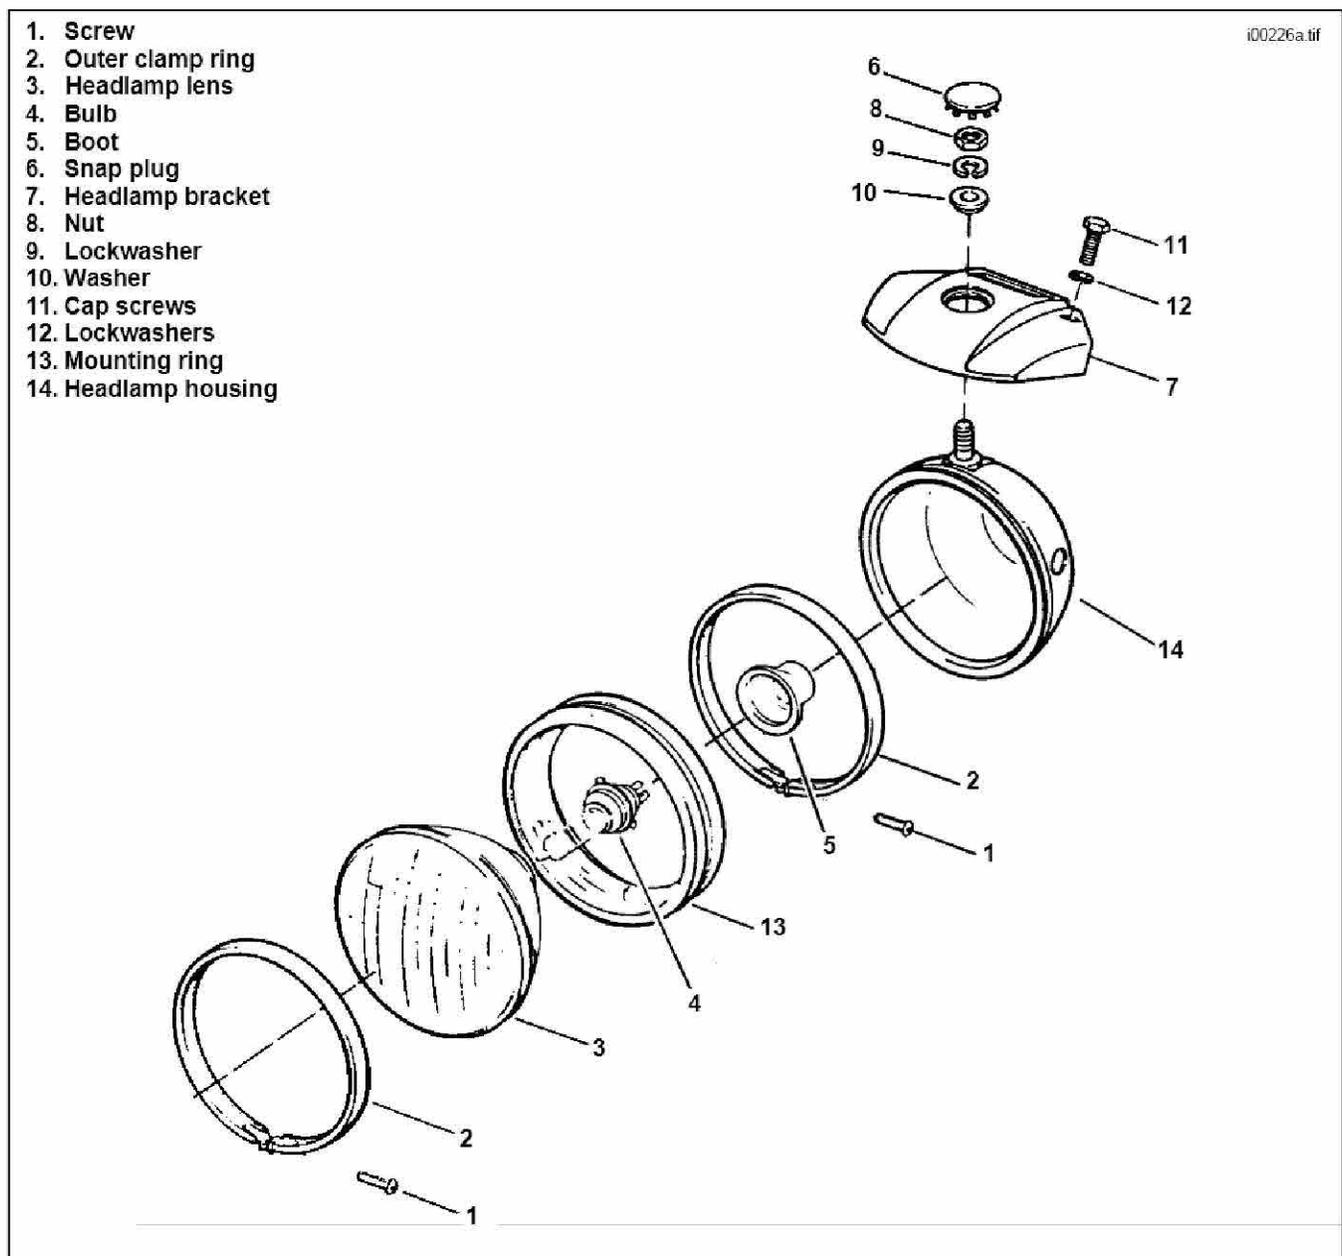
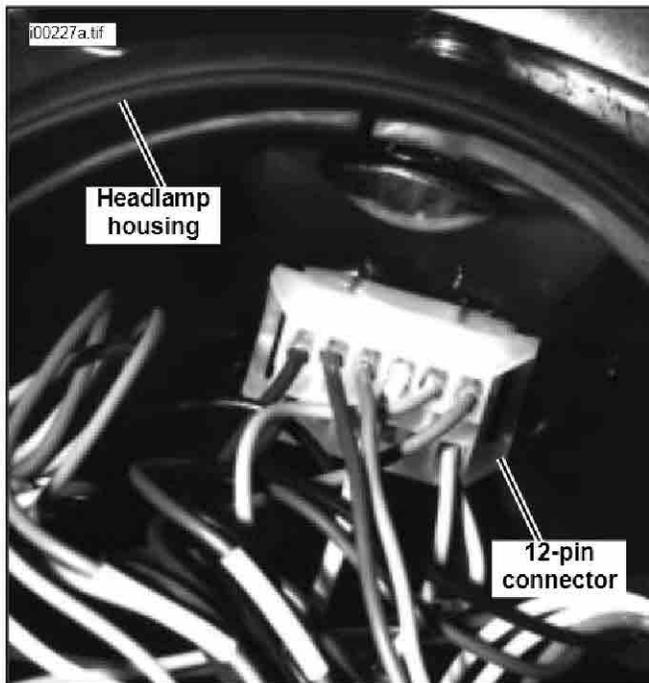

Figure 2. Headlamp
Figure 3. Headlamp Electrical Connector -1992 & 1993
1. See Figure 2. Loosen screw (1) securing the outer clamp ring (2). Remove the outer clamp ring and headlamp lens (3). Remove bulb (4) and boot (5) as an assembly.
2. Remove the snap plug (6) on top of the headlamp bracket (7) and remove the nut (8), lockwasher (9) and washer (10) beneath it.
3. Remove cap screws (11) and lockwashers (12) securing the headlamp bracket (7), and remove the bracket.
4. See Figures 3, 6A, 8 and 9. Disconnect the 12-pin electrical connector located at the top center of the headlamp housing by squeezing the tabs and pulling. Disconnect the 2-pin electrical connectors outside the headlamp housing the same way.
- See Figure 2. Place the headlamp bracket in position and install cap screws (11) and lockwashers (12) securing the bracket (7).
- Place the headlamp in position in the bracket and install headlamp washer (10), lockwasher (9) and nut (8).
- Install bulb (4) and boot (5). Install headlamp lens (3). Tighten screw (1) and outer clamp ring (2).
- See Figure 2. Install the snap plug (6) on top of the headlamp bracket.